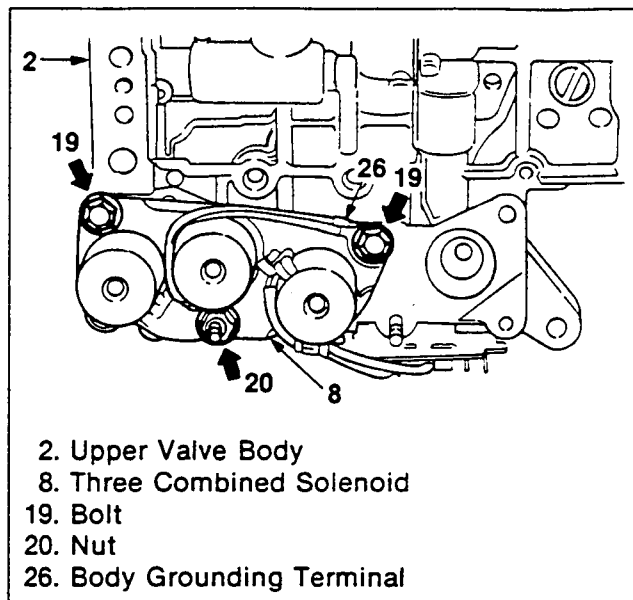

Figure 99. Three Combined Solenoid and Body Grounding Terminal Installation
Three Combined Solenoids (Overrun Clutch Solenoid, Shift Solenoid A, B) (Figure 99)
2. Attach the body grounding terminal at the position shown (figure 99), and tighten the bolt and nut at the specified torque.